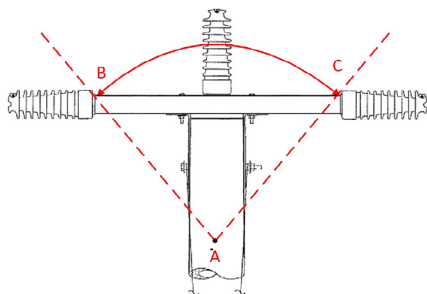

Figure 1
- Use the string to measure the distance between A-B and A-C as shown in Figure 1